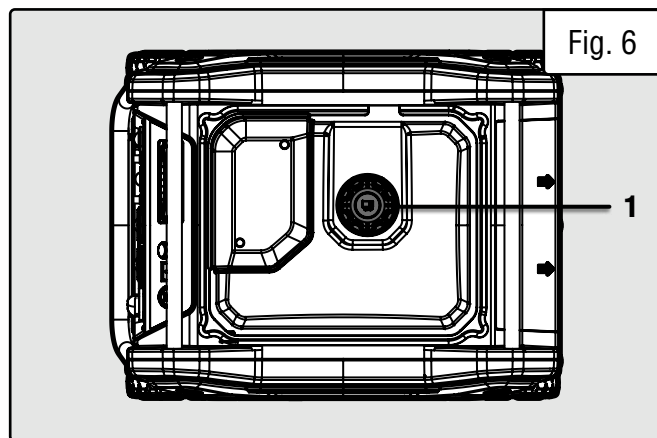

Fig. 6
1. Make sure the generator is shut OFF and on a level surface. Unscrew the fuel cap (Fig. 6 - 1) and set it aside. The fuel cap may be tight and hard to unscrew.